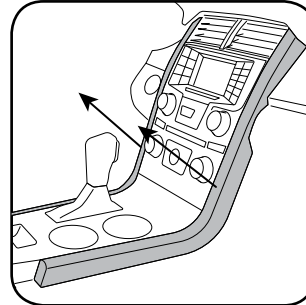

Fig. 1.1
1. Open center console lid, then remove the trim panels on either side of the radio by firmly pulling upward on them. (Fig. 1.1)